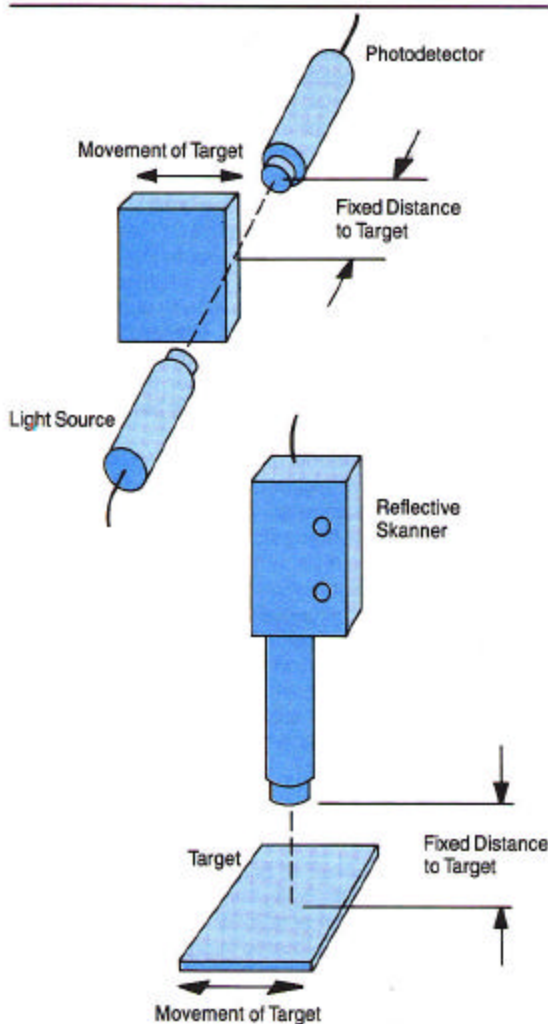

FIG. 30
- With the distance from sensor to target remaining constant, move the target in and out of the Field of View or Beam Diameter, perpendicular to the sensor axis (see Fig. 30) and observe the amplifier's output.